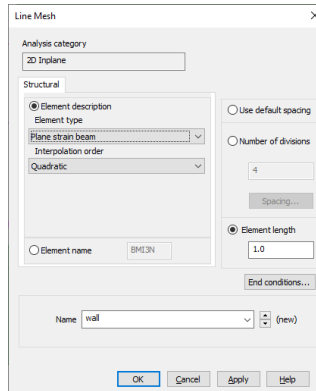

Figure 22: Definition of wall mesh
- Now select **Attributes > Mesh > Line...** to define the mesh for the wall. Define a **Plain strain beam** of **Quadratic** order with an element length of **1** and click **OK** (figure 22).
- For the anchor grout, change to a **Quadratic** order and specify an element length of **1.0** and click **OK** (figure 22)